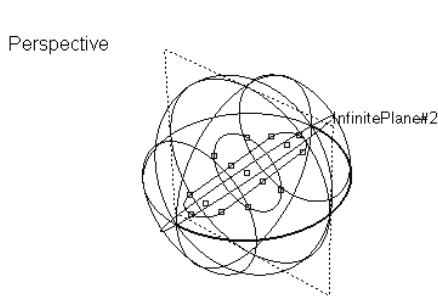

Figure 7-63 Circles created on the construction plane
10. Choose the **Circular arc** button from the **Keypoint Curve Toolbox** and create the circular arc, as shown in Figure 7-63.